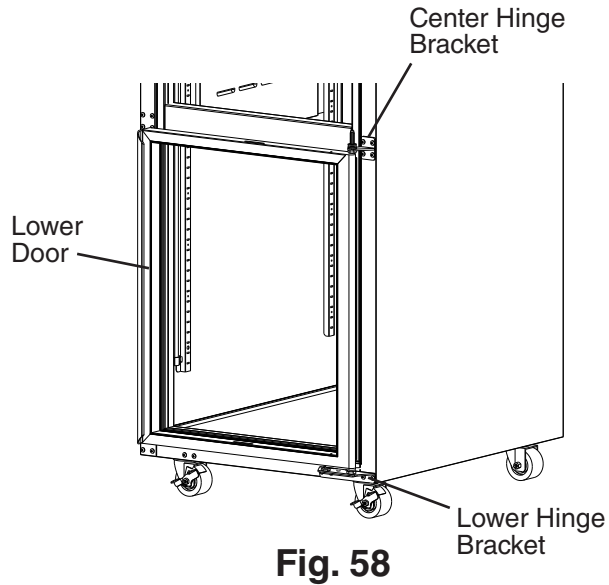

Fig. 58
- 10) Close the lower door. While supporting the lower door, remove the screws supporting the center hinge bracket, then lift the lower door (with center hinge bracket) from the lower hinge bracket and set aside. See Fig. 58.